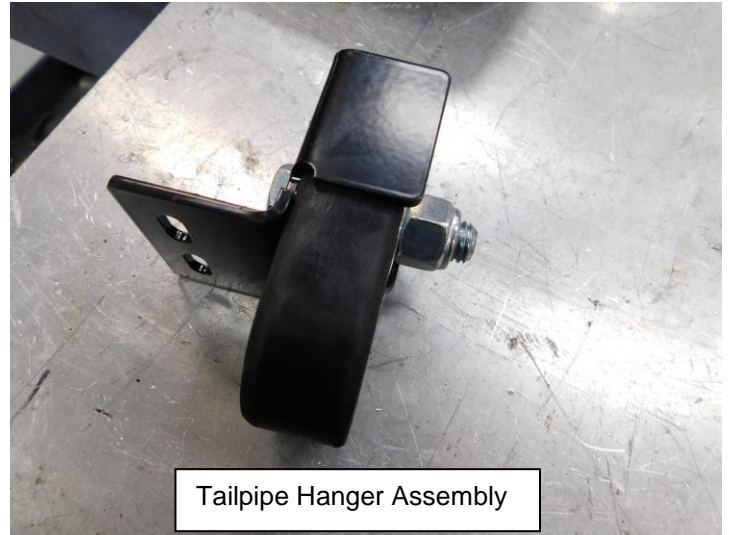

Figure 3
5. Pre-assemble the tailpipe hanger brackets with the provided rubber isolator using the 1.75 long ½" bolt and lock nut with the washer against the rubber isolator (**Figure 3**).